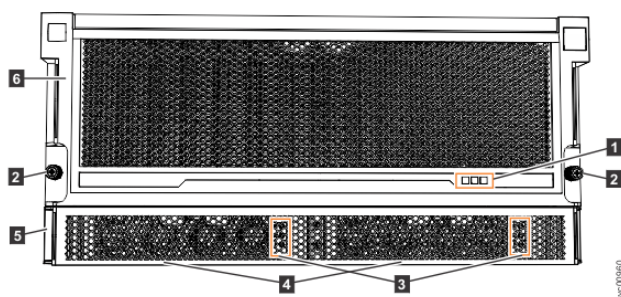
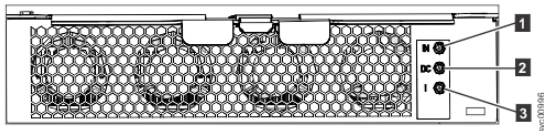

Figure 193. LEDs on the front of the expansion enclosure
Figure 194. LEDs on the front of a power supply unit
As Figure 193 on page 246 shows, the front of the 5U expansion enclosure contains LEDs for the display panel (1) and for each of the power supply units (3).
The 5U expansion enclosure contains two PSUs (4 in Figure 193 on page 246) that are accessible from the front of the enclosure. Each PSU has its own a set of LEDs, as shown in Figure 194 on page 247.